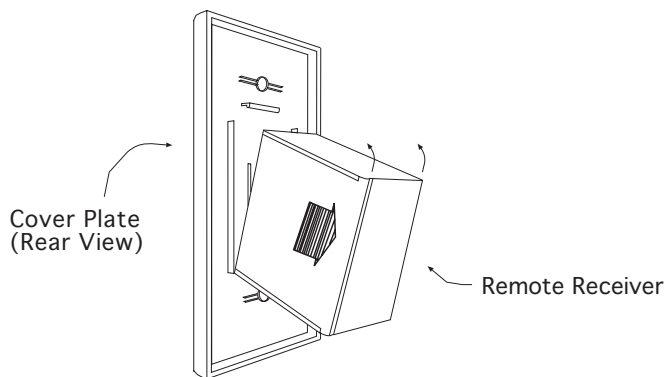

Fig.. 12. Wall plate to Receiver
**Next**, attach wall mount cover plate to receiver box (Fig. 12):